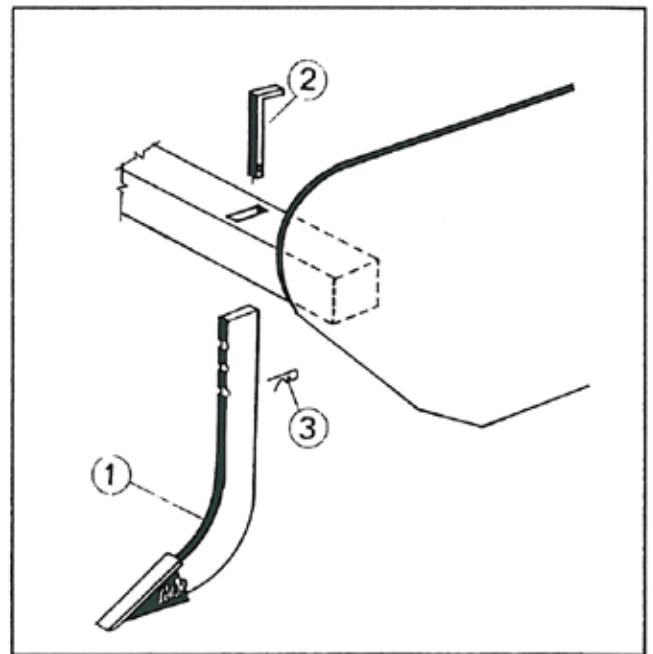

Figure 1
Remove bridge pin (3) and scarifier lock (2). Raise or lower shanks to desired setting. Insert bridge pin (3) and Scarifier Lock (2). Figure 1
Remove scarifier lock (2) and replace used shank with new one (1). Figure 1